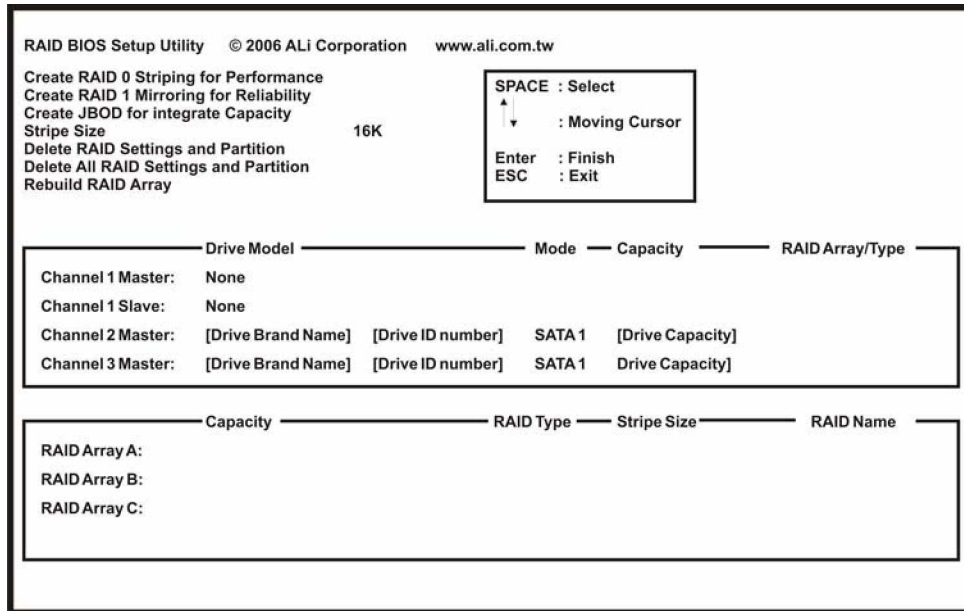

Figure F-2: RAID BIOS Setup Utility
Step 9: **Delete RAID settings and partitions.** The **RAID BIOS Setup Utility** in **FigureF-2** appears. Before configuring the array select the “**Delete All RAID Setting & Partition**”.